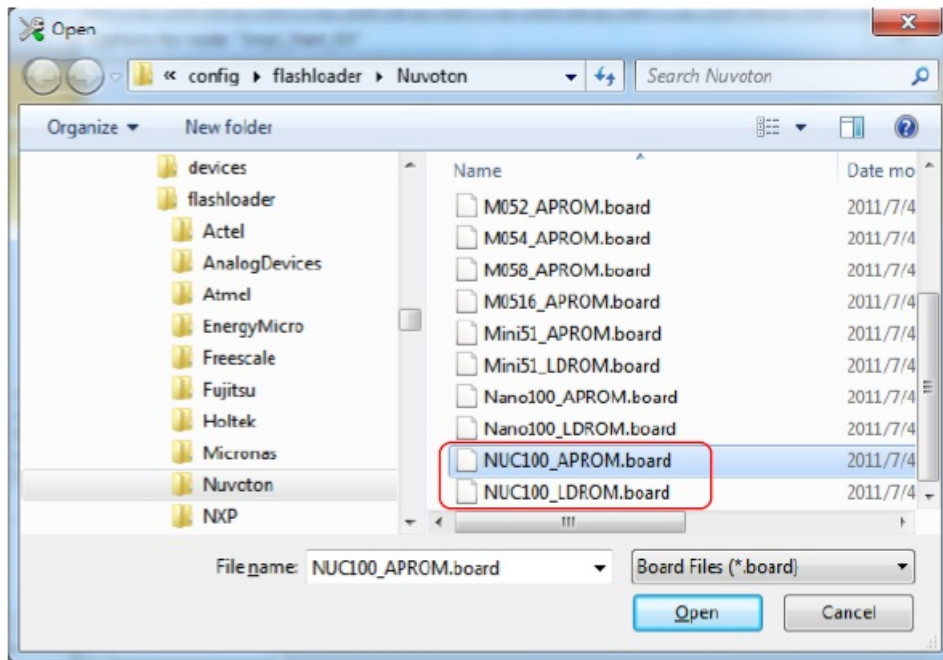

Figure 4-18 Select.board File for IAR EWARM
Step 6: In the **Download** tab of the **Debugger** page, select the Override default .board file option if you want the firmware to be downloaded to APROM or LDROM, and then specify the NUC100_APROM.board or NUC100_LDROM.board file (NUC100 series is used in this case). If no file is founded, specify the following path "\$TOOLKIT_DIR\$\config\flashloader\ Nuvoton\"," as shown in Figure 4-18.